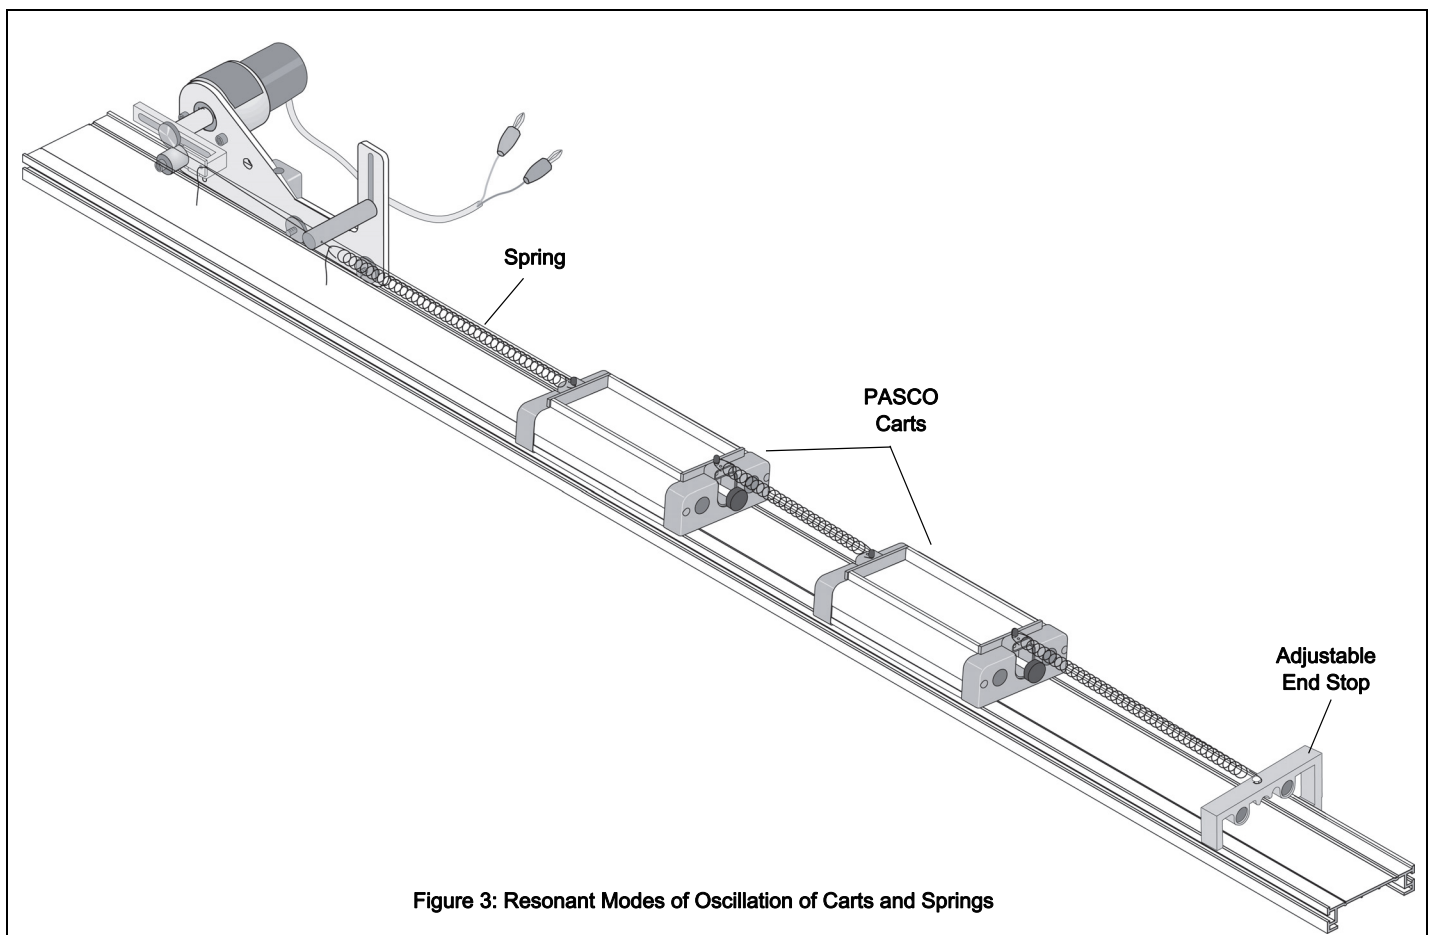

Figure 3: Resonant Modes of Oscillation of Carts and Springs
2. Use two carts and three springs to find the resonant frequencies of the two different modes of oscillation. See Figure 3.